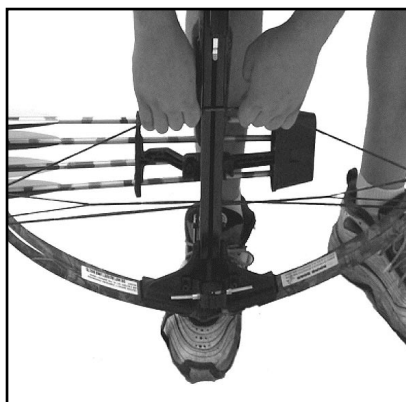

Fig 11
- Place the cocking stirrup (foot claw) on the ground with one foot in the stirrup and the stock end resting against your thigh. ***See Figure 11***